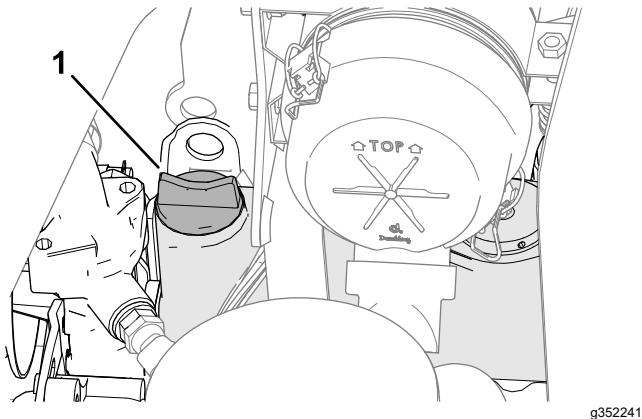

Figure 72
5. If the oil level is low, remove the oil-fill cap (Figure 72) and gradually add small quantities of oil, checking the level frequently, until the level reaches the Full mark on the dipstick.